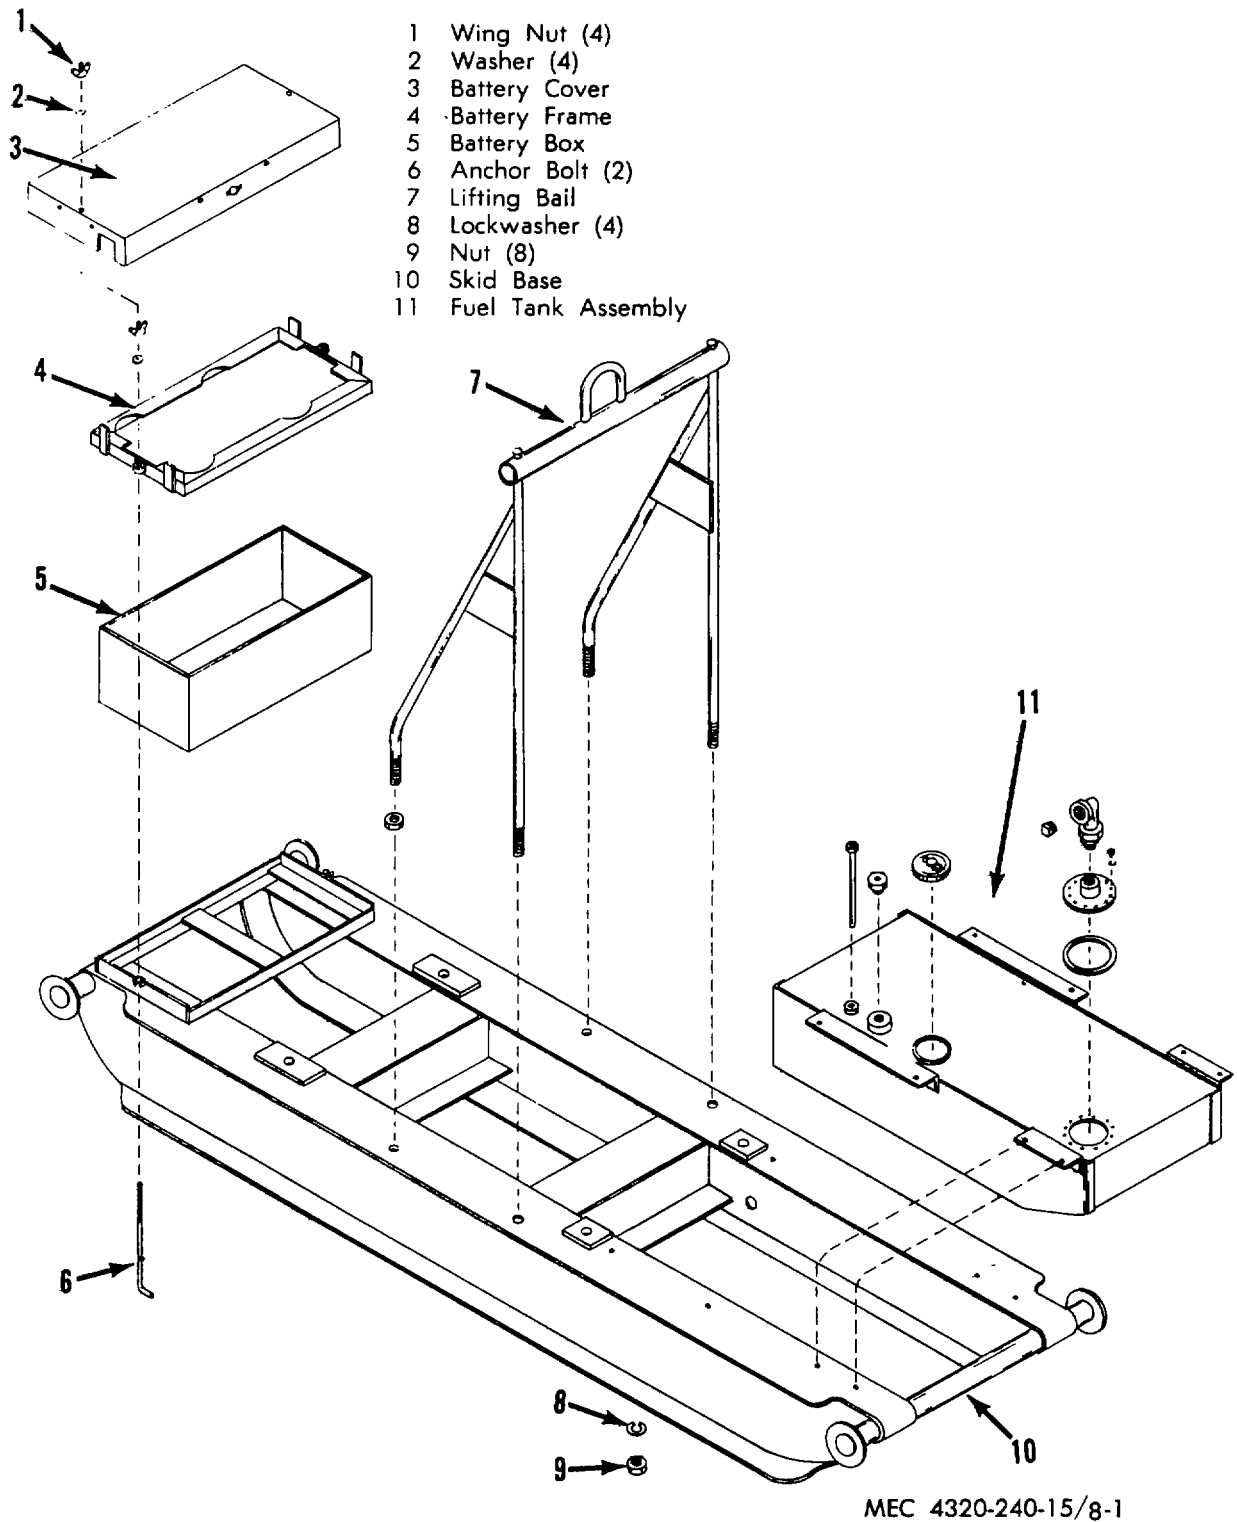

Figure 8-1. Skid base.
(1) Refer to paragraph 3-61c and remove the pump assembly.
(2) Refer to paragraph 5-22a and remove the engine assembly.
(3) Refer to paragraph 3-42 and remove the batteries.
b. Disassembly. Disassemble the parts from the skid base as required. Refer to (fig. 8-1).
(1) Steam-clean the skid base and battery box parts.
(2) Flush the fuel tank with an approved cleaning solvent and drain.
(3) Remove any greasy gummy deposits with a cloth dampened with an approved cleaning solvent; dry thoroughly.
(4) Inspect all parts for damage; if defective.